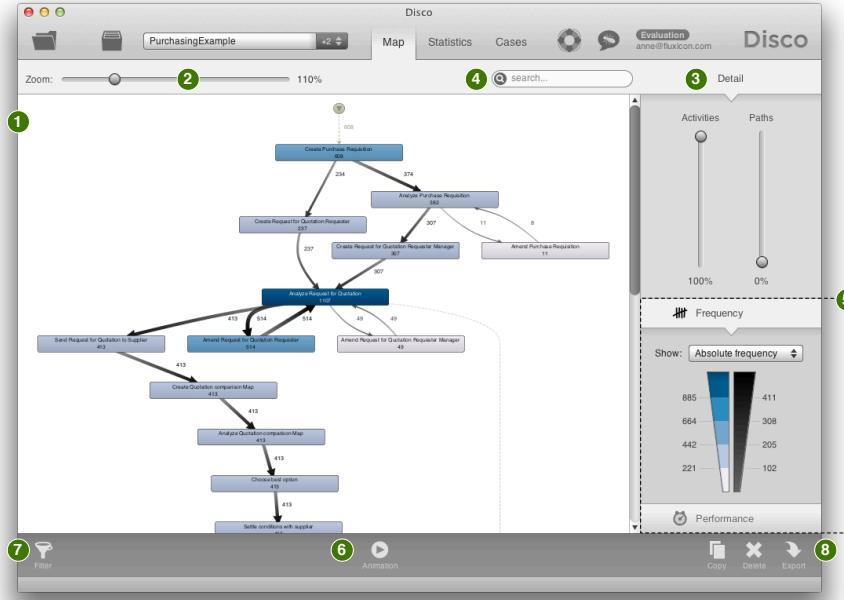
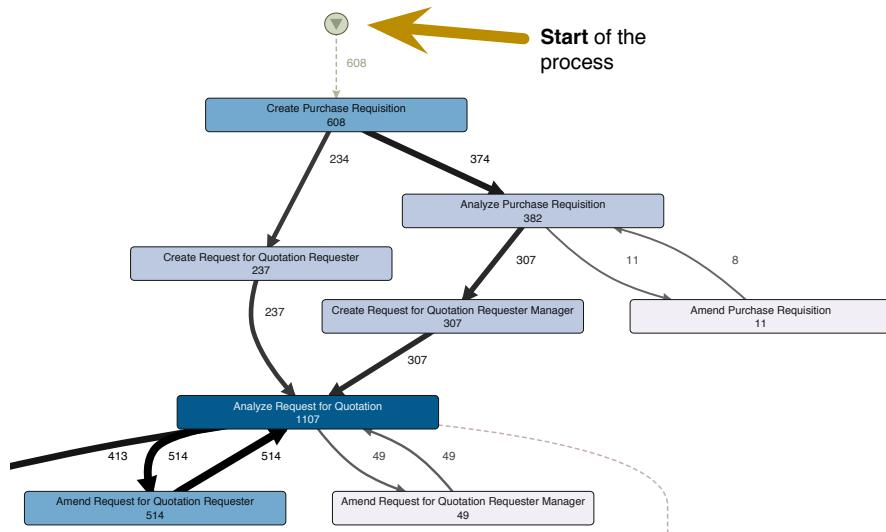
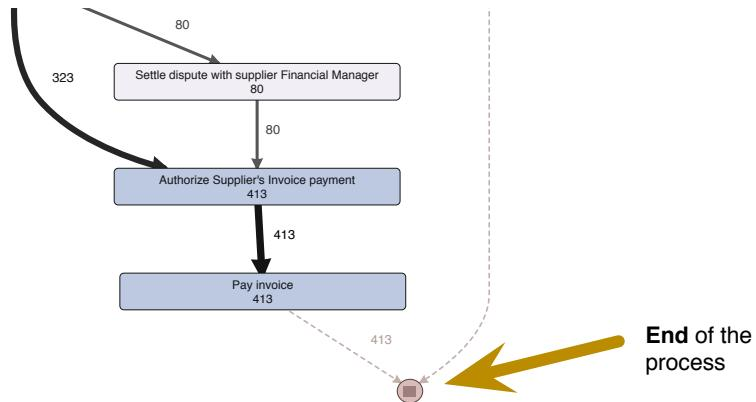

Fig. 4.4. The Map view in Disco.
Fig. 4.5. Start of the purchasing process demo example.
Fig. 4.6. End of the purchasing process demo example.
After you have imported your event log, the first thing you usually want to see in a process mining tool is what your process actually looks like. Therefore, Disco brings you right into the Map view (Figure 4.4).
The discovered process is visualized in a simple and intuitive way: The start of the process is illustrated by the triangle symbol at the top of the process map (see Figure 4.5). Similarly, the end of the process is illustrated by the stop symbol (see Figure 4.6). Activities are represented by boxes and the process flow between two activities is visualized by an arrow. Dashed arrows point to activities that occurred at
- In Figure 4.5 we can see that there are 608 cases (different instances of the purchasing process) in the data set that all start with the activity *Create Purchase Requisition*.
- In total, activity *Analyze Request for Quotation* is the one that is executed most often (in total 1107 times)—almost twice as much as we have cases in the data set! This comes from the dominant loop with activity *Amend Request for Quotation Requester* (see Figure 4.5). Repeatedly, purchase orders are amended and need to be re-analyzed, which is of course very inefficient and from a process improvement perspective we would need to find out what is going on. Perhaps people don’t know what they are allowed to purchase, and we might resolve the problem by updating our purchasing guidelines or providing additional training.
- Figure 4.6 shows another fragment from the end of the purchasing process. We can see that 413 purchase orders are completed and end with *Pay invoice*. Some others are stopped earlier in the process (see other dashed arrow). In fact, in Figure 4.5 we can see that some are stopped after activity *Analyze Request for Quotation* (see dashed arrow at the bottom of the shown fragment).
When you move the Activities slider up, increasingly also less-frequent activities are included, up to showing all activities that have ever occurred (even if they just occurred once or twice). For example, in Figure 4.4 and in Figure 4.5 you see a process fragment with 100% of the activities shown: Less frequent activities such as *Amend Purchase Requisition*, which occurred only 11 times, are shown as well.
activities even if you look at a simplified process map. For example, in Figure 4.4 and in Figure 4.5 you see the purchasing process with all activities (Activities slider pulled up to 100%) and just the most dominant connections between them (Paths slider set to the lowest point).
In Figure 4.5 you can see that not all the details of the process are revealed yet because activity *Amend Purchase Requisition* has been performed 11 times directly after activity *Analyze Purchase Requisition* (see incoming path with number 11), but only 8 times the process has returned to *Analyze Purchase Requisition* afterwards (see outgoing path with number 8). Where did the process go in the other 3 cases? This can be revealed by pulling the Paths slider up to 100% as shown in Figure 4.8. We can see that 3 times the process went directly from *Amend Purchase Requisition* to activity *Create Request for Quotation Requester*.